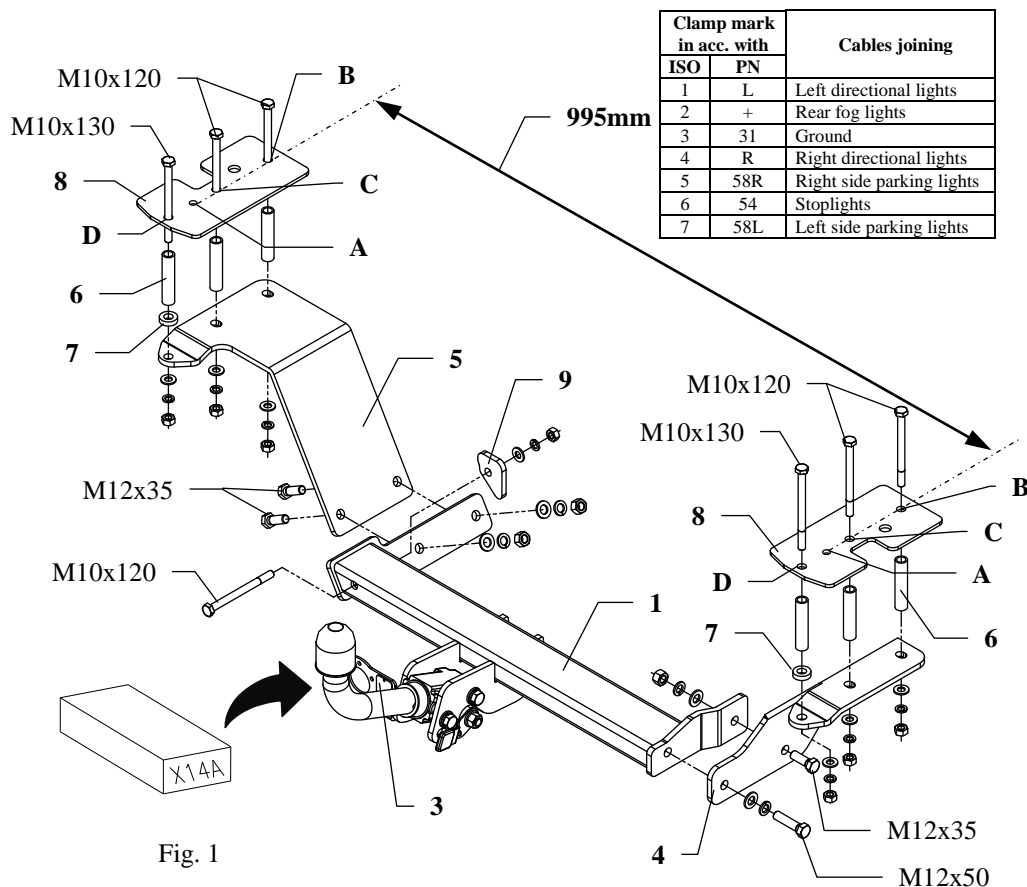
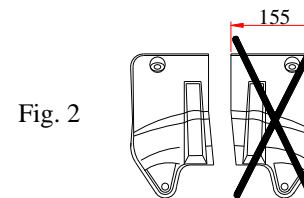

Fig. 1
Fig. 2
3. Fish-plates (pos. 8) put in this way so holes A agree with holes after luggage holders disassembly. Arrange fish-plates parallel with chassis lines and according dimension from figure 1. Next through holes B and C drill holes using bit  $\varnothing 11\text{mm}$  and through holes D drill holes using bit  $\varnothing 18\text{mm}$ .
4. Through holes D put distance sleeves  $\varnothing 17$  (pos. 6), put fish-plates pos.8 at the end put bolts M10x120mm (pos.13) and M10x130mm (pos. 12). See figure 1.
- on the left side – on protruding bolts put left bracket (pos. 5). Put distance sleeves pos. 6 before! Twist on..
- NOTE!** Use thick washer  $\varnothing 25 \times 6\text{mm}$  (pos. 7) on hole D (see figure 1).
- on the right side – on protruding bolts put right bracket (pos. 4). Put distance sleeves pos. 6 before! Twist on loosely.
6. Between installed side brackets (pos. 4 and 5) put main bar of the towing hitch (pos. 1) and fix using bolts M10x120mm, M12x35mm and M12x50mm. See figure.
7. Reassemble thermal shield after cut out fragment according to figure 2.
9. Fix body of the automat and place tow-ball according to supplied instruction. Note! Remember to place socket plate (pos. 3) as shown on the drawing 1.